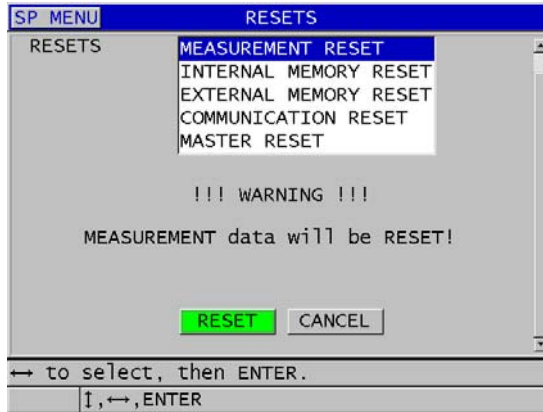

Figure 15-1 Activating a reset function
3. In the **RESETS** screen (see Figure 15-1 on page 267):